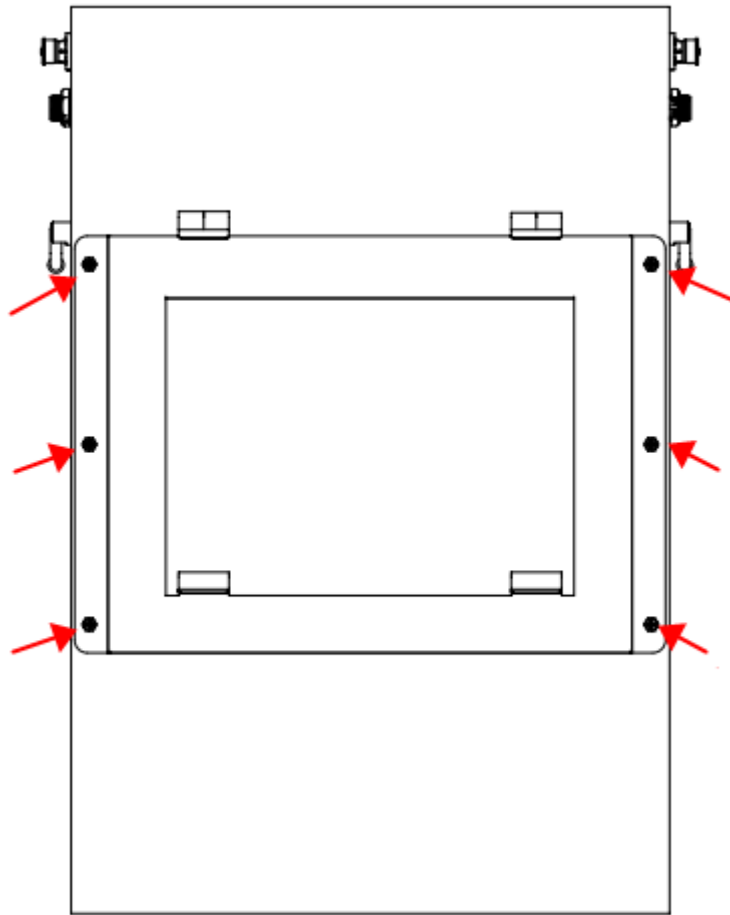

Figure 5-1
f) Use the 6 screws of M6*10 to fix the backplane to the back of the battery as shown in Figure 5-1.